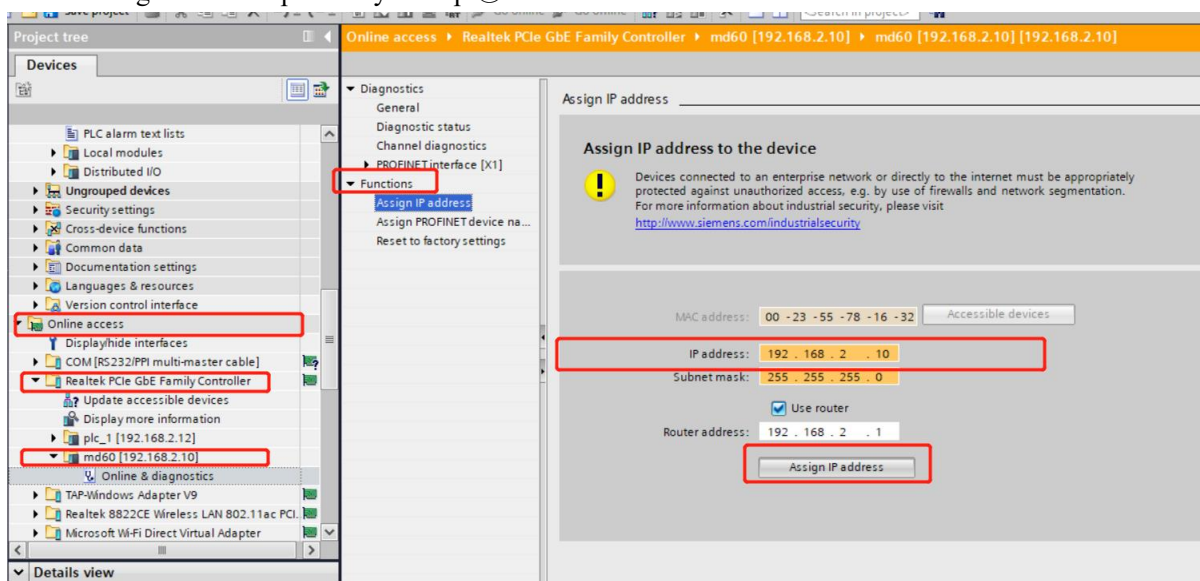

Figure 1.2.1 IP address modification
- ① First, connect the drive to the computer through a network cable,
- ② Open the Portal software, expand the "Online Access" drop-down list, select the corresponding network card, and click "Update Accessible Devices". After waiting for the software to scan the drive, double-click Online and Diagnostics.
- ③ Double-click "Assign IP Address" in the "Function" drop-down list. After filling in the IP address and subnet mask, click the "Assign IP Address" button. Figure 1.2.1. This step can be omitted if "Set IP address in project" is selected in the configuration. Skip directly to step ③ to set The PROFINET device name is sufficient PROFINET .